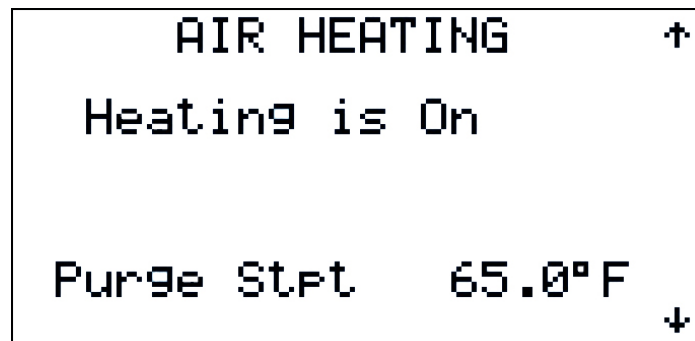

Figure 58
2.3.3.2.4. Tuning – Air Heating (Figures 58 - 61)
Pressing the **DOWN** key will now display the settings shown in Figure 58. This screen will be shown if the modulating heat has been set or not. The status of the heat is shown as well as the heat bypass damper position setting. If Purge has been enabled, the heat setpoint in purge mode is also shown.